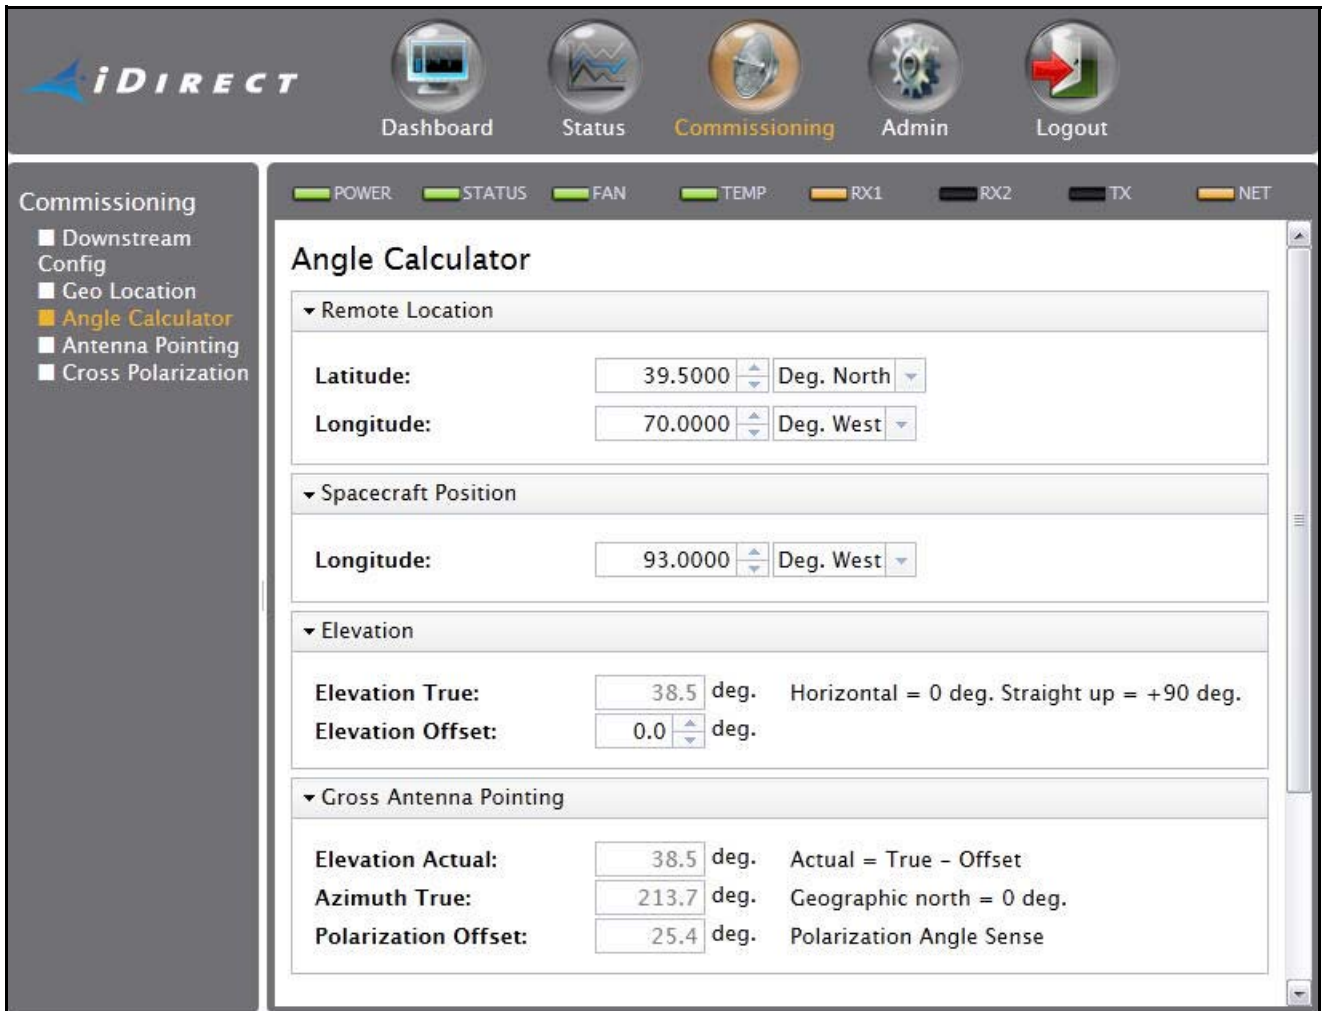

Figure 39. Web iSite Commissioning Dialog Box: Angle Calculator
1. In the navigation bar at the top of the Web iSite window, click the Commissioning button. Select Angle Calculator from the list in the left-hand menu pane. See Figure 39.
2. Refer to the Gross Antenna Pointing area of the Angle Calculator. Using an inclinometer or protractor, adjust the feed horn assembly to the approximate angle indicated in the Polarization Offset field. See Figure 39.